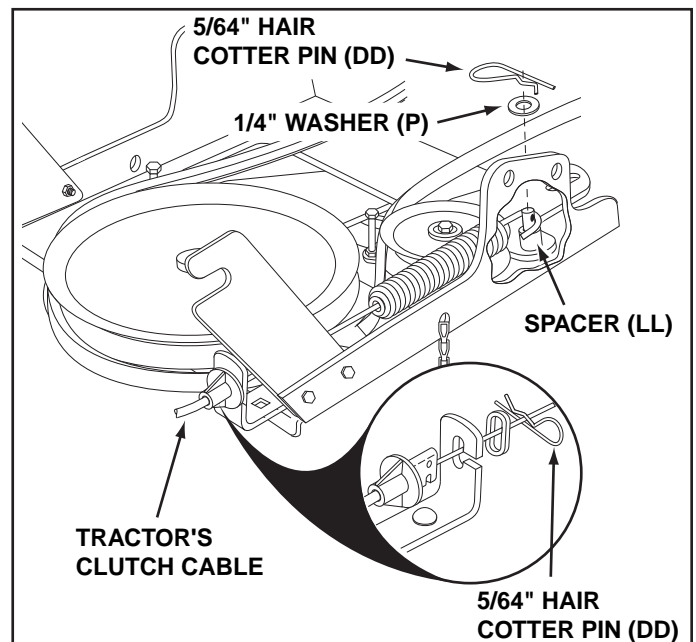

FIGURE 38
STEP 38: (SEE FIGURE 38)
- Attach the tractor's clutch cable to the cable bracket. Secure the cable housing guide (groove down) to the cable bracket using the original collar and a 5/64" hair cotter pin (DD).
- Place a spacer (LL) on the welded pin on the idler arm. Hook the end of the clutch spring over the pin and secure it with a 1/4" washer (P) and a 5/64" hair cotter pin (DD).